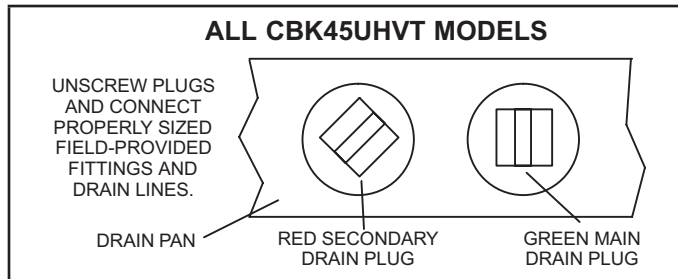

FIGURE 15. Drain Line Connections
- 3 - Set unit so that it is sloped toward the upflow drain pan end of the unit and level from front to back of unit (see figure 15).
Make sure the unit is sloped (similar to the slope shown in figure 15) so that the drain pan will empty completely without water standing in the pan.